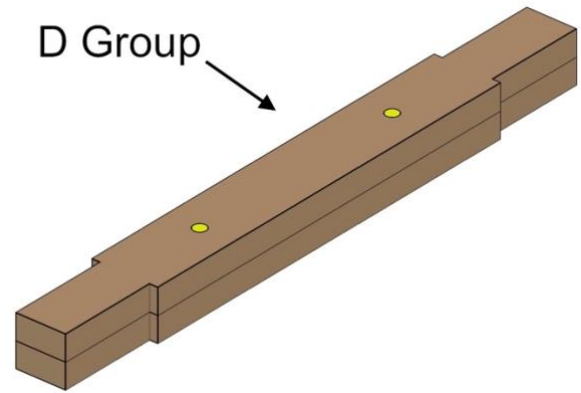

Fig. 20.2
- Fig. 20.2 shows the completed process.